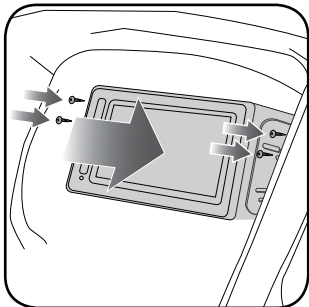

Fig. 3.1
5. Insert the radio into the dash and secure the metal brackets with (4) T25 screws. (Fig. 3.1)